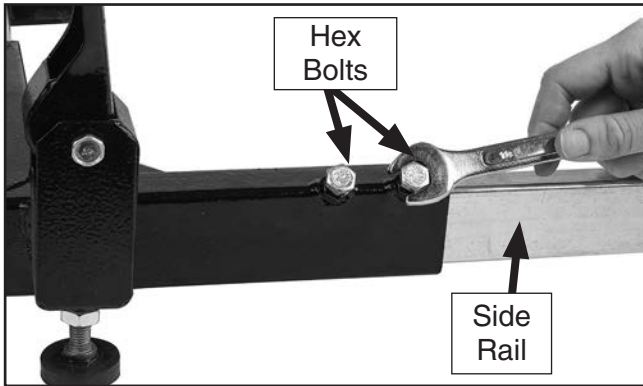

Figure 8. Securing corner bracket with both hex bolts.
- Secure each end of corner brackets with (2) M8-1.25 x 16 hex bolts (see **Figure 8**).